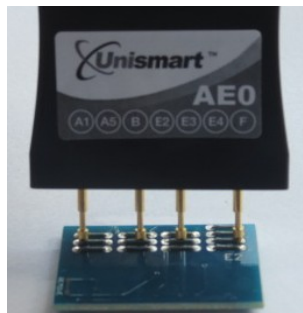

Figure 2-1
- ◆ For these ten models under the E2 list: ARS-206L-EXP/208S-4K-KOR/208S-4K-EXP/208S-4K-CHN/208L-KOR/208L-EXP/208L-CHN, ARD-2208-3K/2209-6K/0611-10K, test head AE0 is for resetting OEM chips. See Figure 2-1 for the contact method.